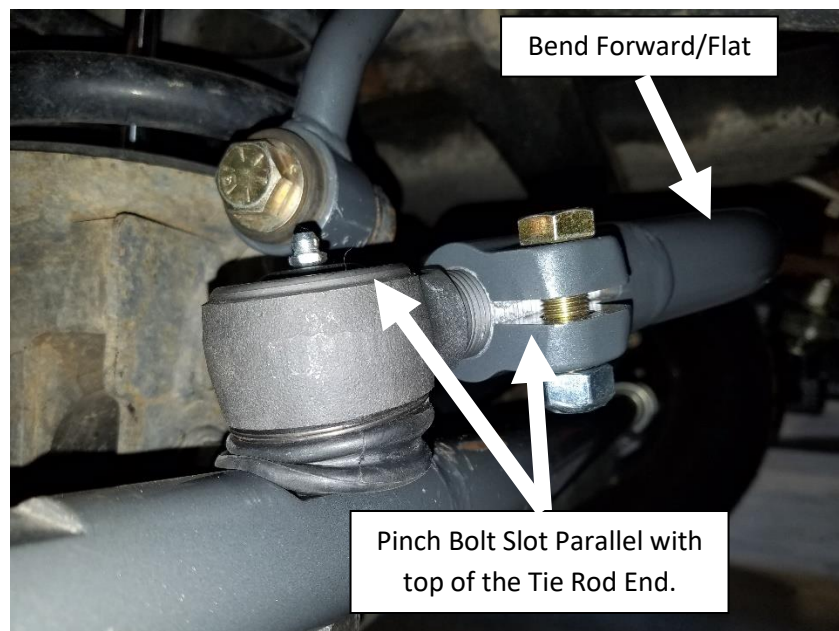

Figure 9. Pinch Bolt Style Drag Link Tie Rod End Correct Alignment
16. Align the drag link so pinch bolt forging is forward and the bend is flat. Tighten the pinch bolt on the tie rod side, you do not need to fully torque at this time. Tightening the pinch bolt will ‘lock’ the drag link into position. The tie rod end that goes from the drag link into the tie rod is a single plane tie rod end that will prevent the drag link from ‘flopping’. See **Figure 9**.